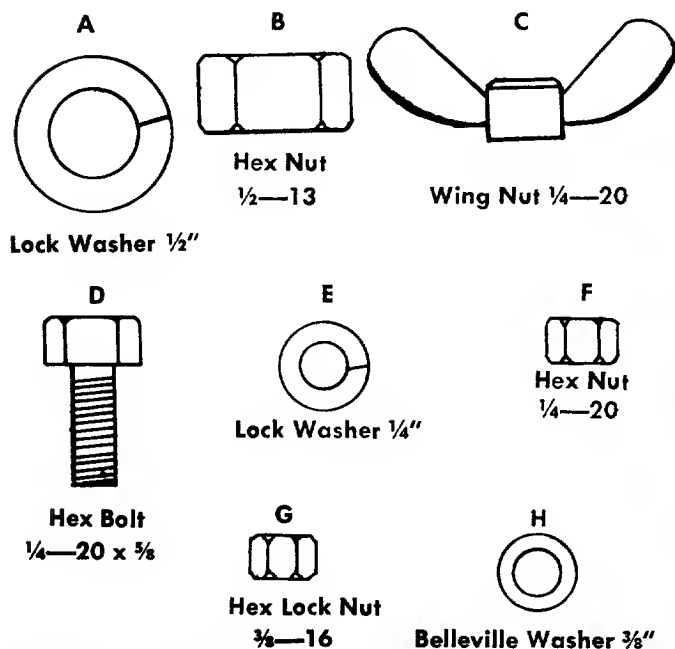

FIGURE 1. HARDWARE SUPPLIED
B. Place seat on spring and secure with lock-washer (A) and hex nut (B). See figures 1 and 3.